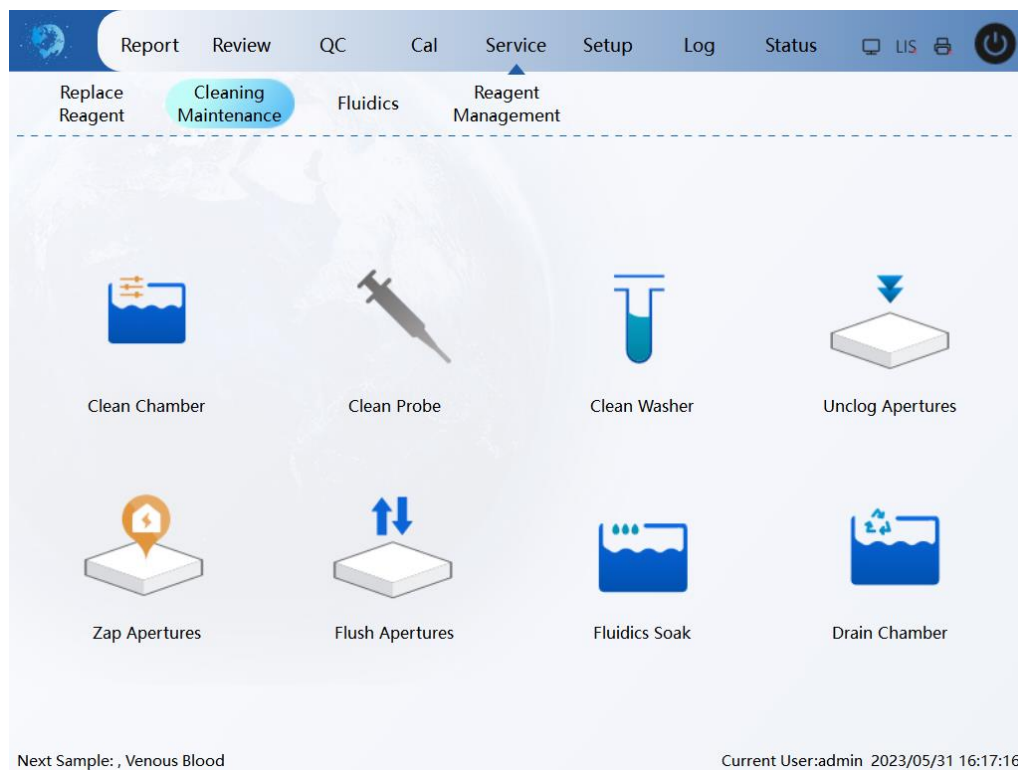

Figure 9-3 Cleaning maintenance
1. Click "Service > Cleaning Maintenance" to enter the interface shown in Figure 9-3.